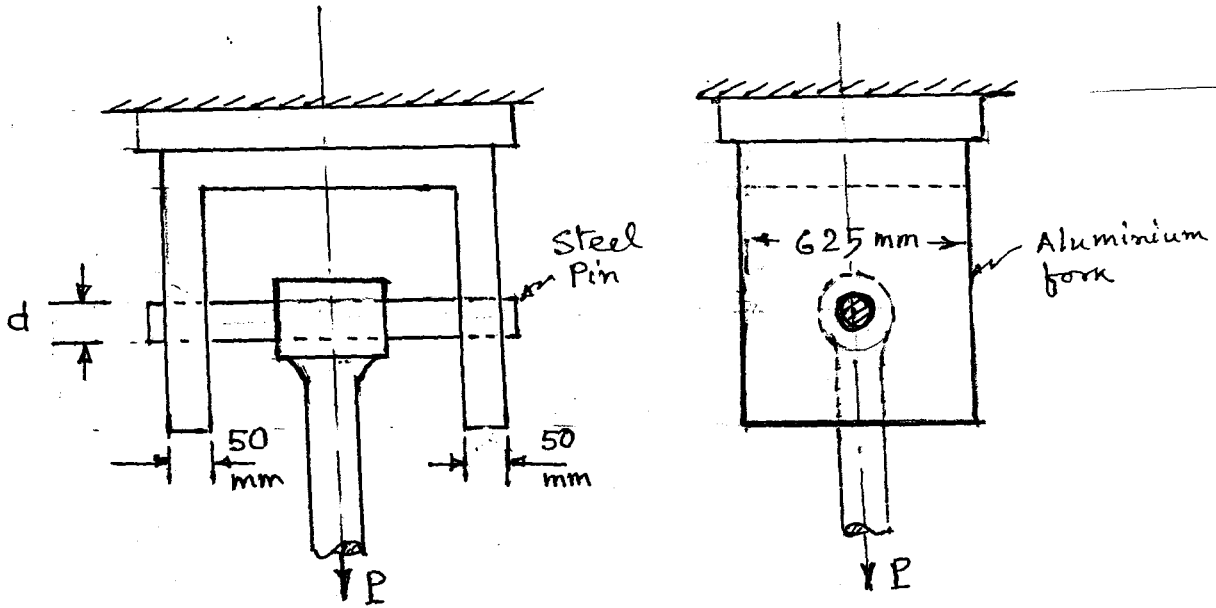

Fig. Q.1 (b)
- (b) Each prong of the cast aluminium fork shown in Fig.Q.1(b) has a 50 mm x 625 mm rectangular cross-section. The allowable tensile stress for cast aluminium is $\sigma_w = 70 \text{ N/mm}^2$ and allowable shear stress for the steel pin is $\tau_w = 42 \text{ N/mm}^2$. For what diameter d of the pin, will the safe load P on the assembly be a maximum ?